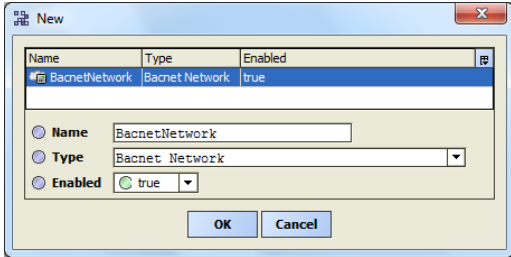

Fig. 20. Adding Specification to add BACnet Network
- Next, a new window will appear, showing 'Name', 'Type' and 'Enabled' (keep its value to 'True'). Refer to Figure 20.